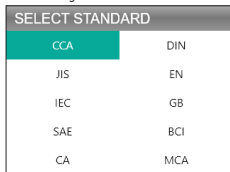

Figure 4.2.4
4. Select the corresponding battery standard and press [OK] (See Figure 4.2.4). The specific battery standard will also be listed on the battery label.